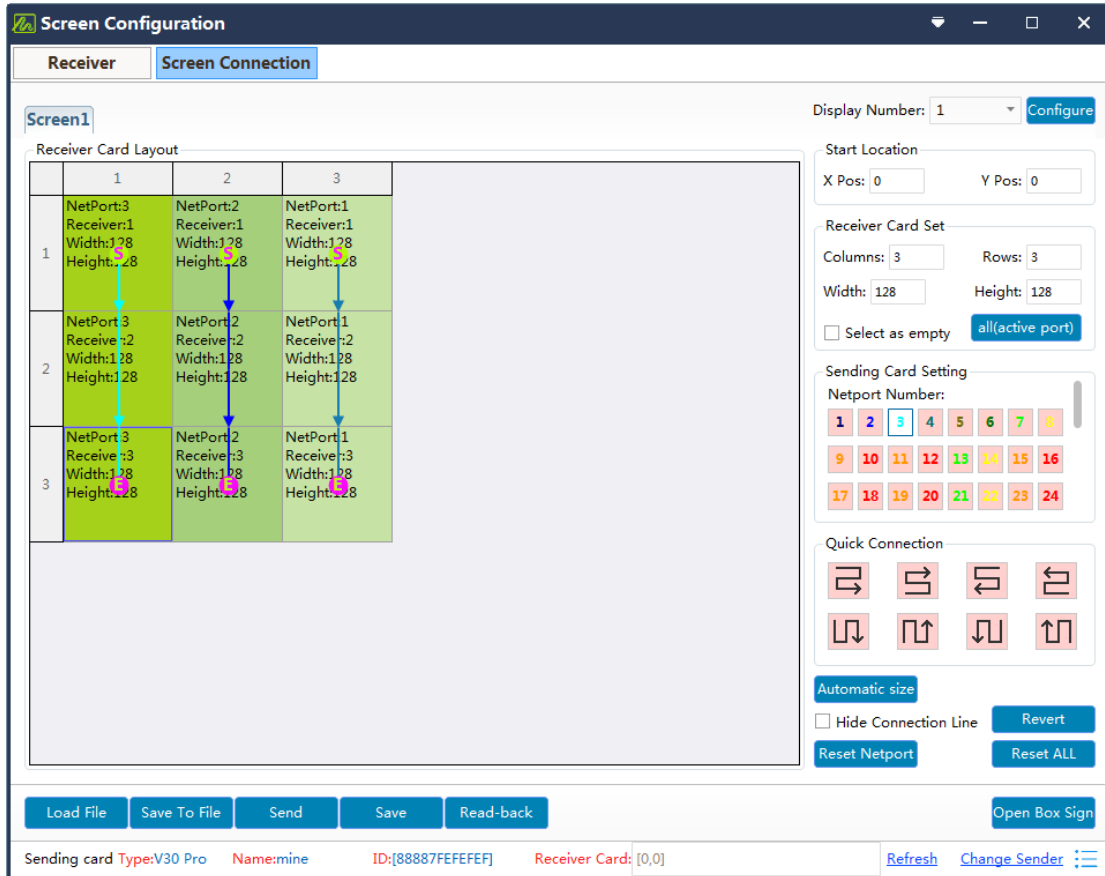

Figure 4-2-13 Receiving Card Cascading Connection Mode
(2) In the “screen connection” interface, set the cascading mode, width and height of the receiving card according to the actual situation of the large screen (each receiving card has a different loading width and height), as shown in Figure 4-2-13.